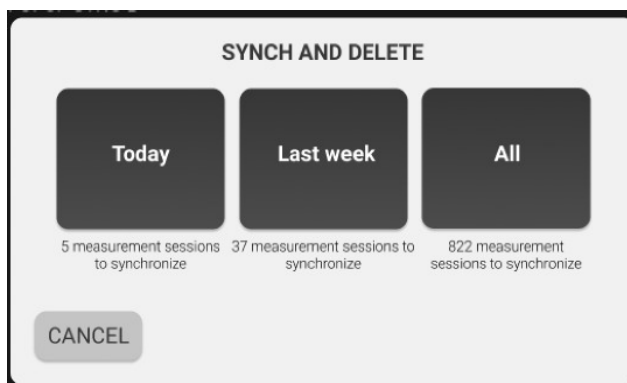

Figure 22 - Synchronization selection
5. Select *Sync and delete* to synchronize and delete data from the internal database. The Synchronization can be performed on measurements of the current day, last week or all data (Figure 22). Once data synchronization is ended, the data on the device will be deleted.